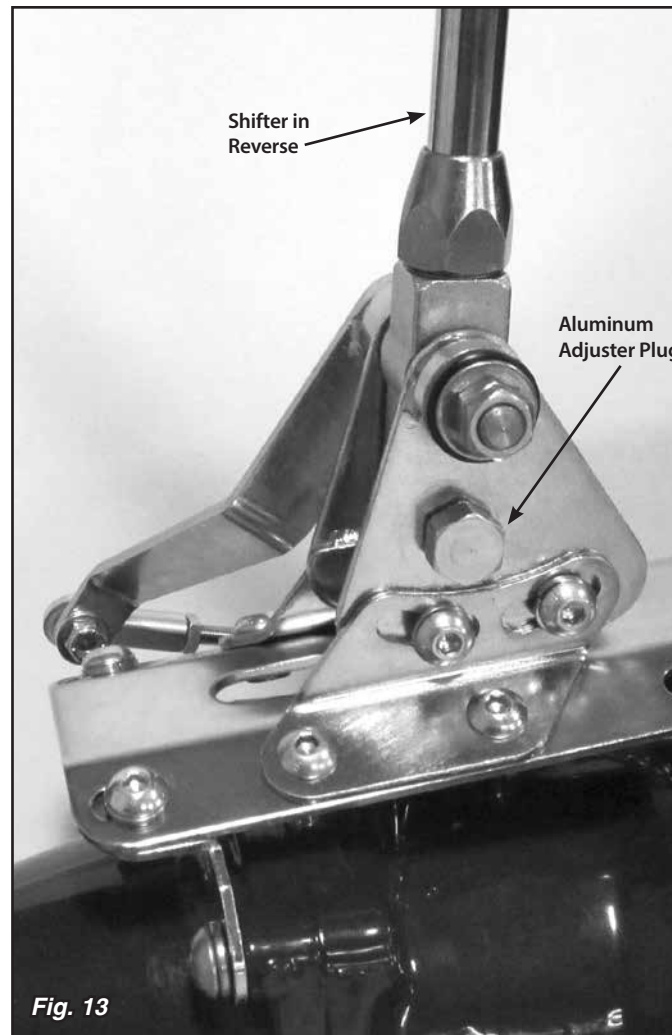

Fig. 13
**Step 19:** Put the shifter lever into the Reverse position. Reposition the switch plate so that the hole in the switch plate lines up with the center groove in the shifter body. **Fig. 12** Screw the provided aluminum adjuster plug into the neutral safety switch opening. Wiggling the switch plate slightly forward and back while you are screwing the aluminum adjuster plug in will help get the shifter body centered on the adjuster plug. **Fig. 13**
- **If there are (2) connections for a neutral safety switch**, run a #12 (or heavier) stranded wire from these terminals in your fuse panel to the (2) terminals on the neutral safety switch. That completes the Neutral Safety Switch wiring.